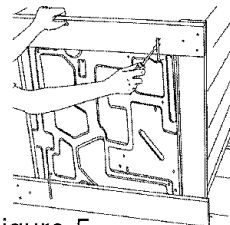

Figure 5
4. Remove the crate bottom from the appliance. (See figure 5.)